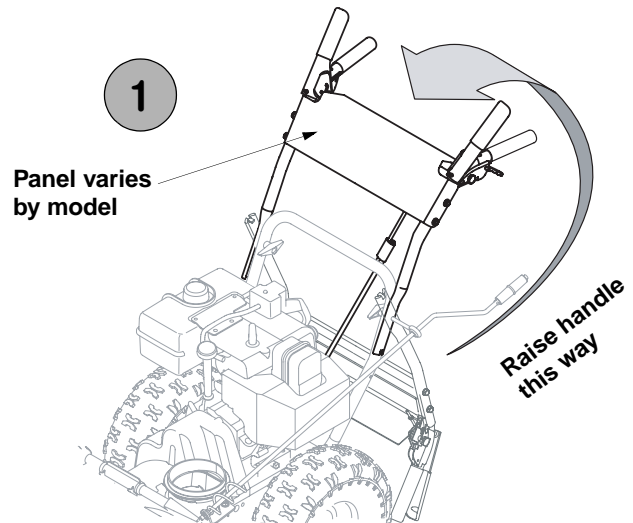

Figure 1
1. Observe the lower rear area of the snow thrower to be sure both cables are aligned with roller guides before pivoting the handle upward until it clicks into the place. See Figure 1.
3. Tighten two handle knobs firmly to secure the upper handle to the lower handles. See Figure 1.